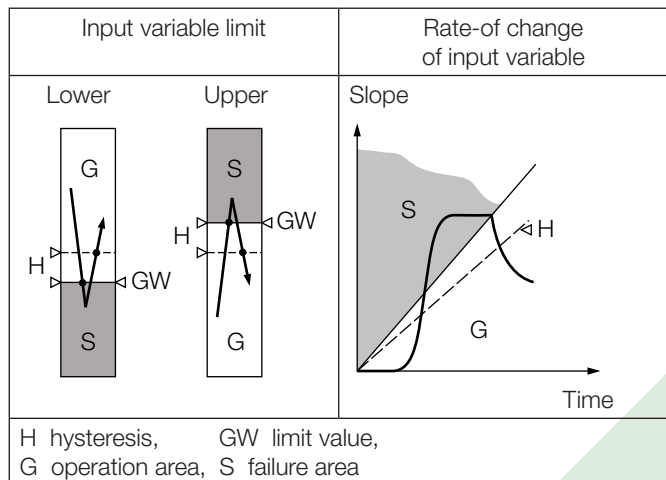

Fig. 5. Switching function according to limit monitored.
- Lower limit value of the measured variable (see Fig. 5, left)
- Upper limit value of the measured variable (see Fig. 5, left)
(see Fig. 5 right)